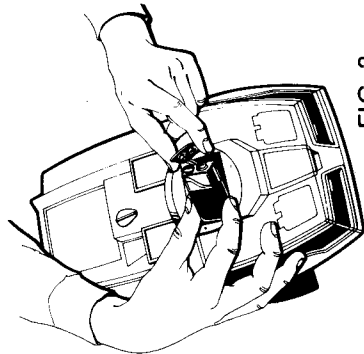

FIG. 3
5. Locate the battery compartment on top of BIG TRAK. See Fig. 3. Turn the battery cover counterclockwise and lift off.
6. Attach one 9 volt battery (alkaline type) to the battery clip. Make sure the connection is properly joined as shown in Fig. 3 or you may cause damage.